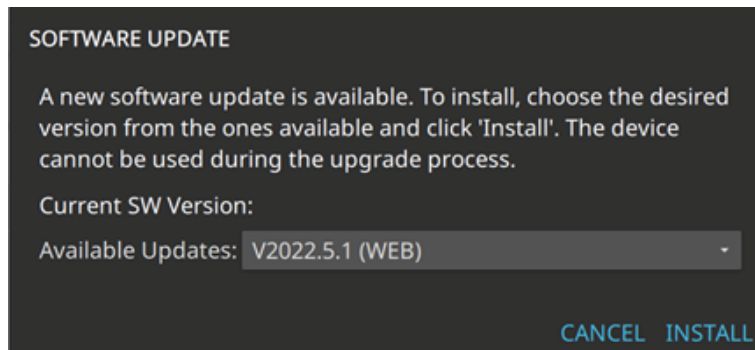

Figure C-3. Software Update Dialog
5. Touch the software update icon to display the SOFTWARE UPDATE window as shown in Figure C-3.
4. Touch the software update icon to display the SOFTWARE UPDATE window shown in Figure C-3.